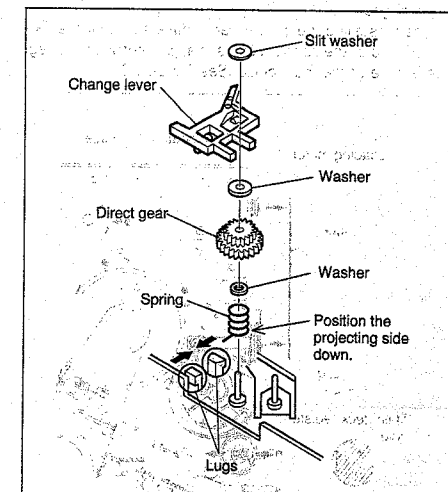

Fig. 2-2-20
- (1) Release two lugs of the rotary encoder guide in the arrow-indicated direction and remove the change lever.
- (2) Remove the slit washer retaining the direct gear and remove the latter.
- Take care of the two washers and one spring on and under the direct gear. (See Fig. 2-2-20)